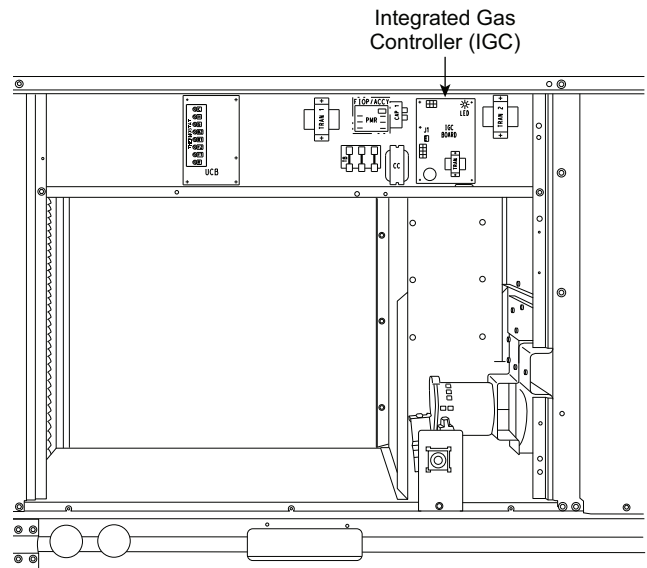
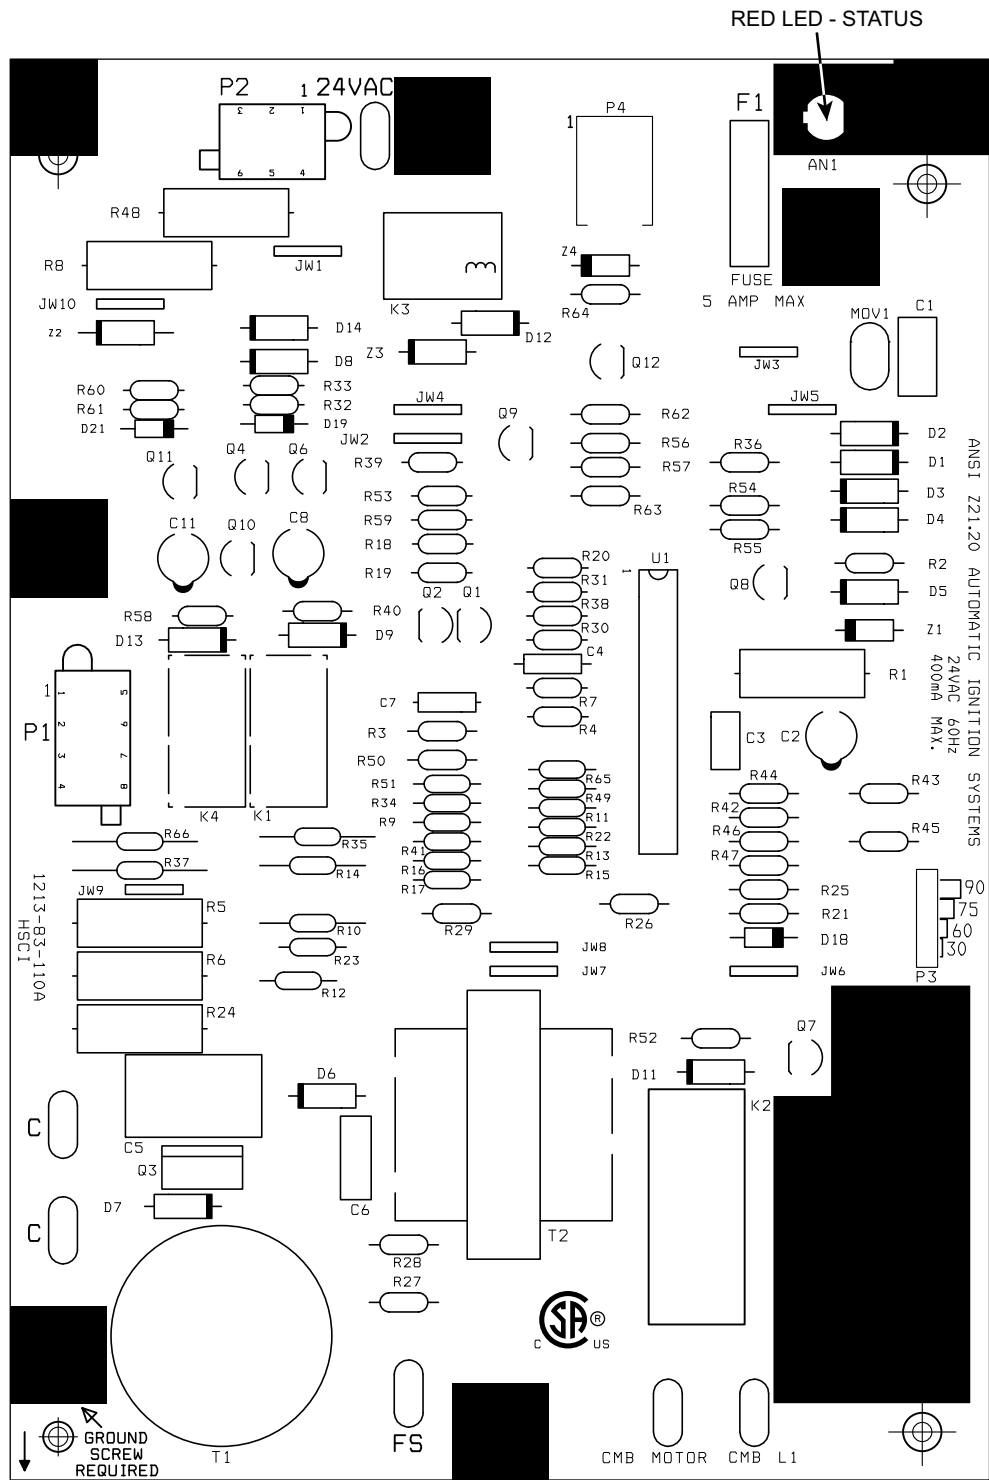
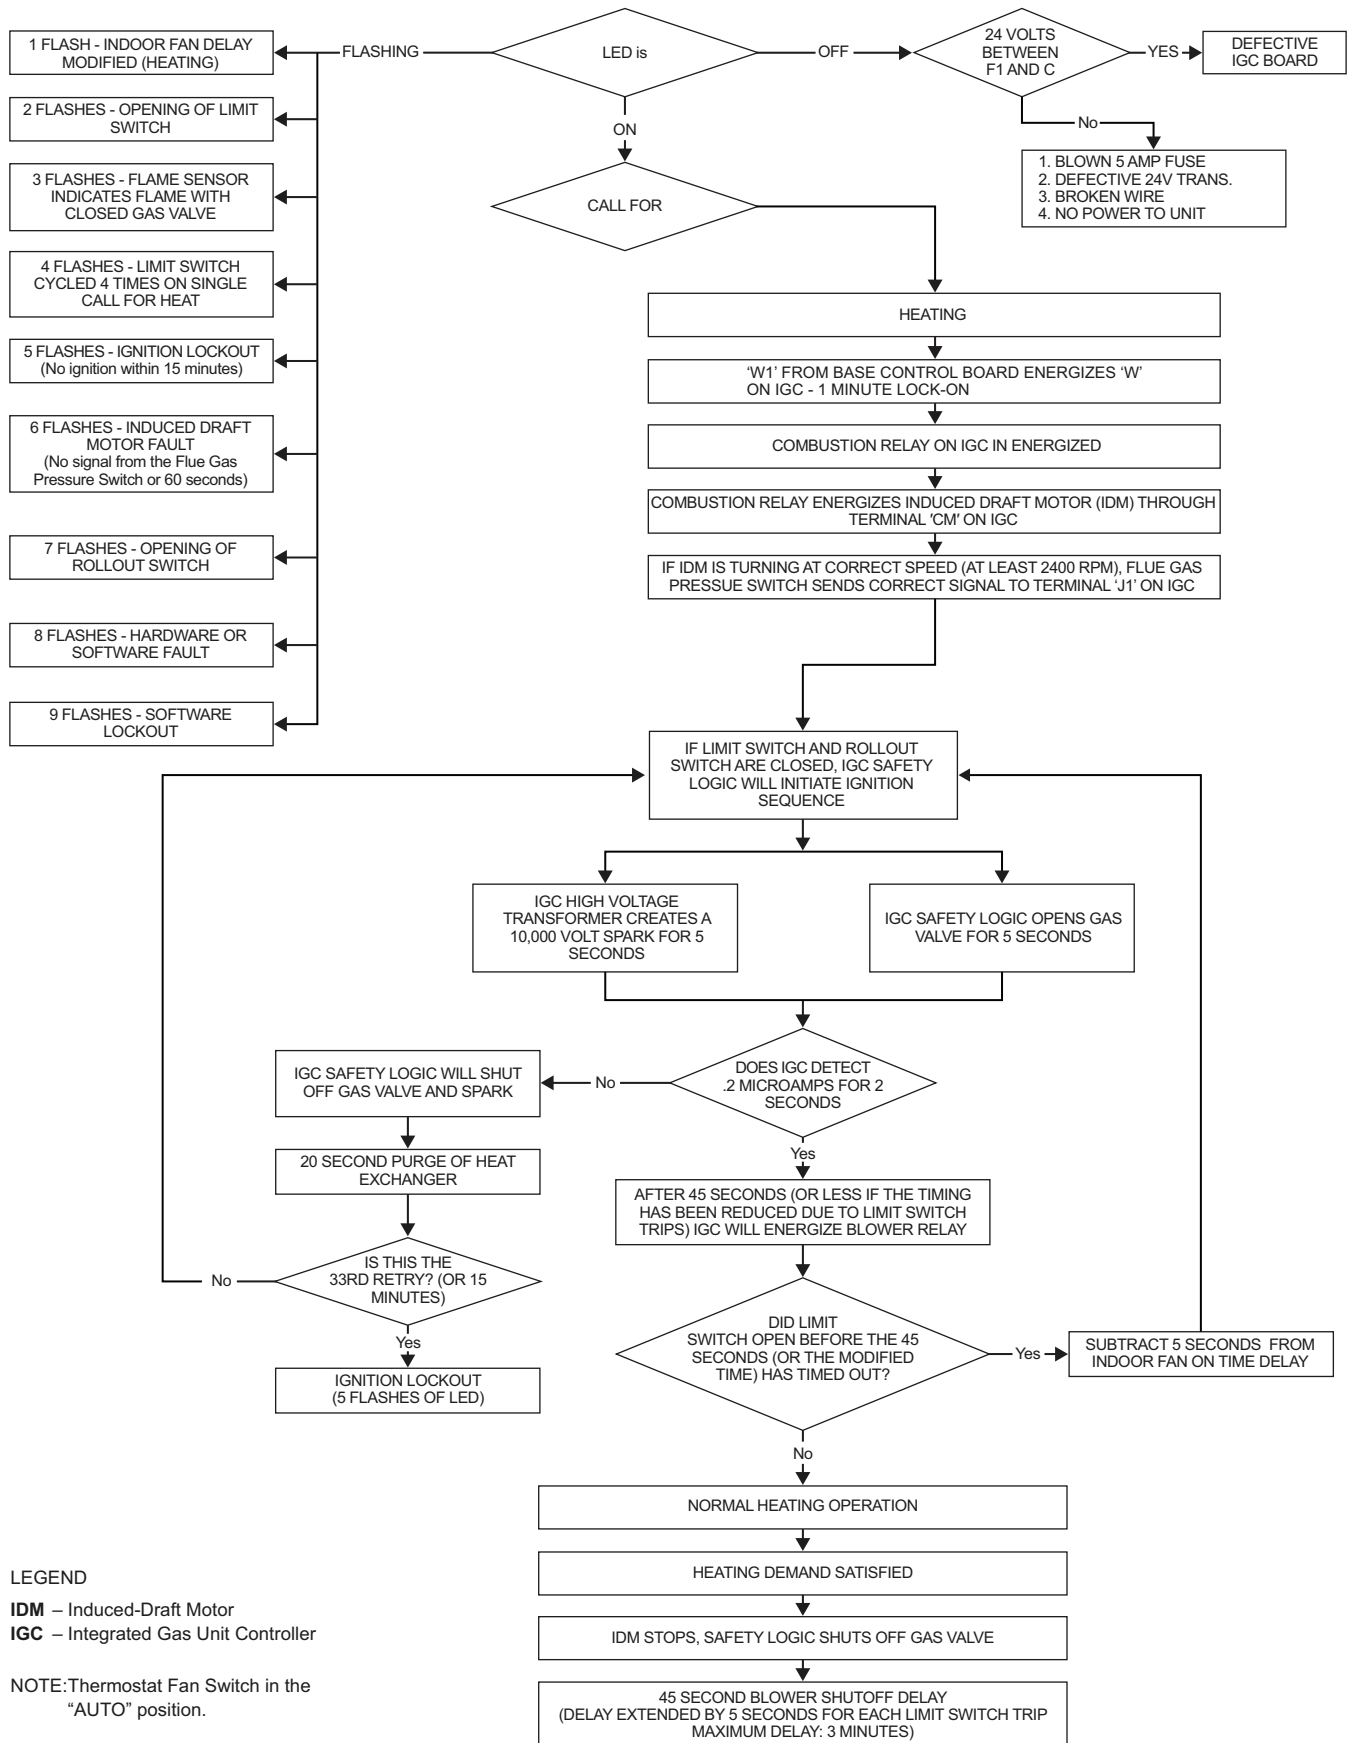
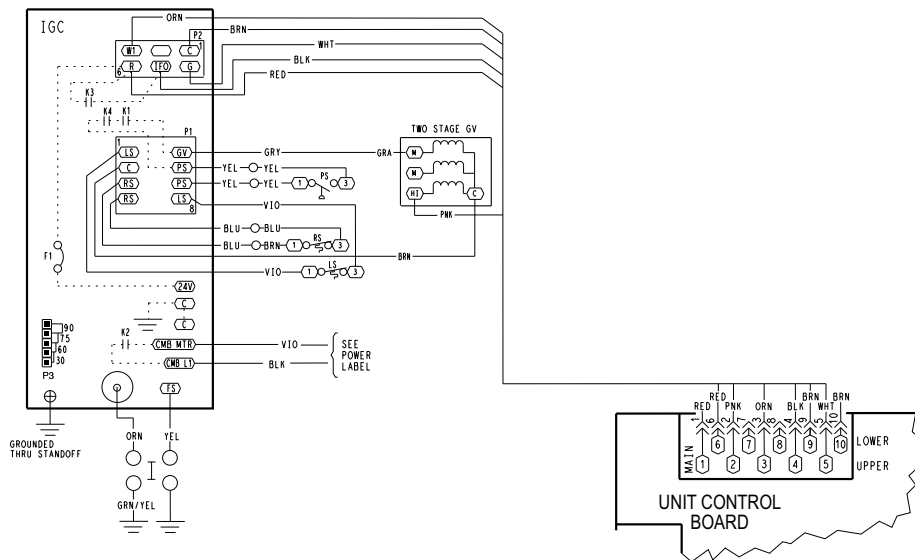

Fig. 55 — Unit Control Box/IGC Location
Fig. 58 — Integrated Gas Control (IGC) Board
Fig. 60 – IGC Service Analysis Logic
Fig. 61 — Typical IGC Control Wiring Diagram
8. Remove igniter wires and sensor wires at the Integrated Gas Unit Controller (IGC). (See Fig. 55.)
Unit is equipped with a direct spark ignition 100% lockout system. The Integrated Gas Unit Controller (IGC) is located in the control box (see Fig. 55). See Fig. 61 for typical IGC board wiring diagram. The IGC contains a self-diagnostic LED (light-emitting diode). A single LED (see Fig. 58) on the IGC provides a visual display of operational or sequential problems when the power supply is uninterrupted. Figure 60 provides an overview of the IGC Service Analysis Logic. When a break in power occurs, the IGC will be reset (resulting in a loss of fault history) and the indoor (evaporator) fan ON/OFF times will be reset. The LED error code can be observed through the view port. During servicing, refer to the label on the control box cover or Table 12 for an explanation of LED error code descriptions.